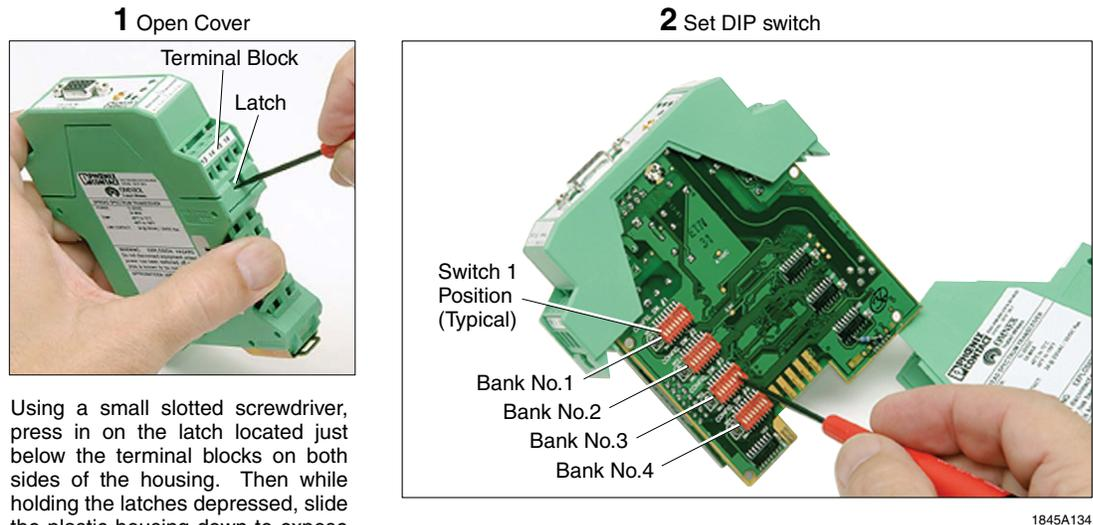

Figure 4-22. Opening Housing to Access DIP Switches
1. Remove the plastic housing from the radio. See Figure 4-22.